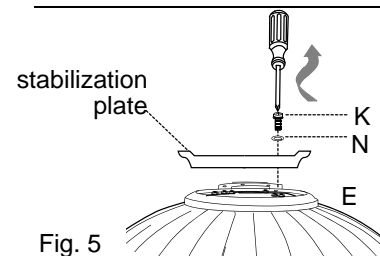

Fig. 5
**\*Note:** It is very important that you use the proper hardware when installing the mounting bracket (C) as this will support the fan.
**Important:** If using the angle mount, make sure open end of mounting bracket (C) is installed facing the higher point of the ceiling.
5. Remove motor screws (K) and lock washers (N) from underside of motor. Remove and discard blue motor stabilization plate. [Fig. 5]